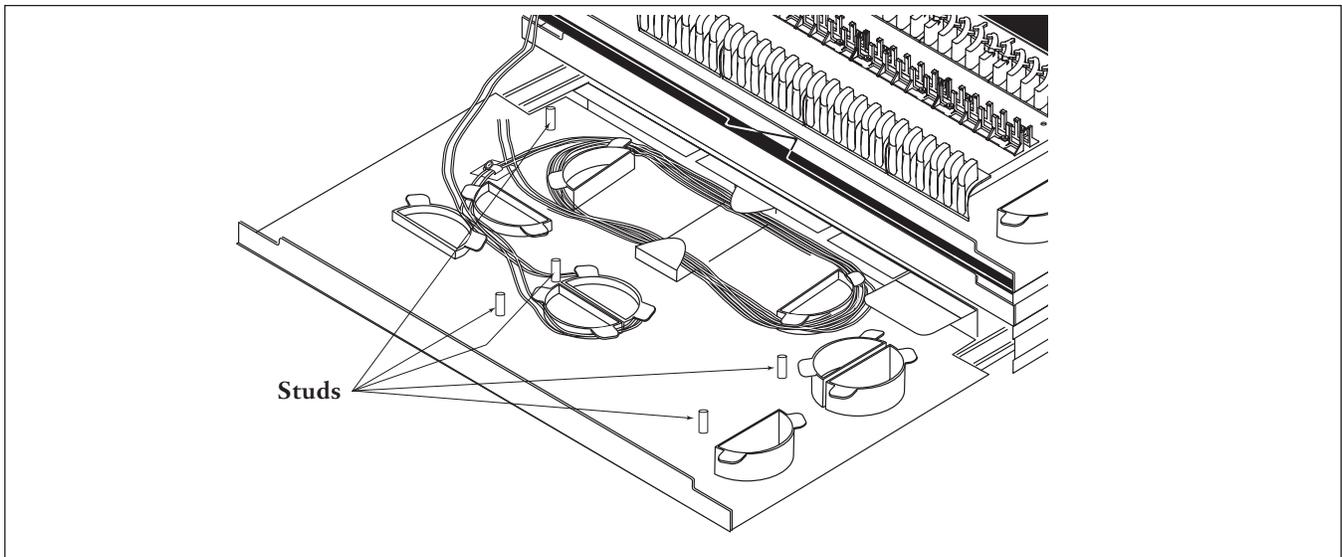

Figure 17
8.6 The connector shelf is held in place on five studs (Figure 17). Pry up the connector shelf to access the fiber guides. Once buffer tubes have been routed, replace the shelf.